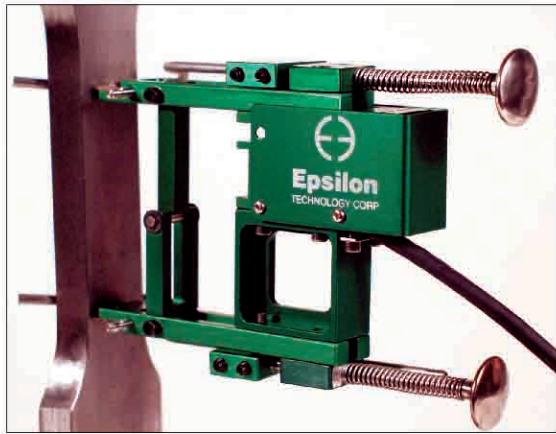

Fig. 3 — This extensometer has  $\pm 20\%$  travel and a 2-in. (50 mm) gage length.
- *The extensometer:* When testing metals, the deflection of the load frame in comparison to the deflection of the specimen may be large enough to introduce significant error. Therefore, metals tests require an extensometer, which measures the deflection of the specimen only (Fig. 3). Most extensometers are attached directly to the specimen, but noncontacting systems are also available.